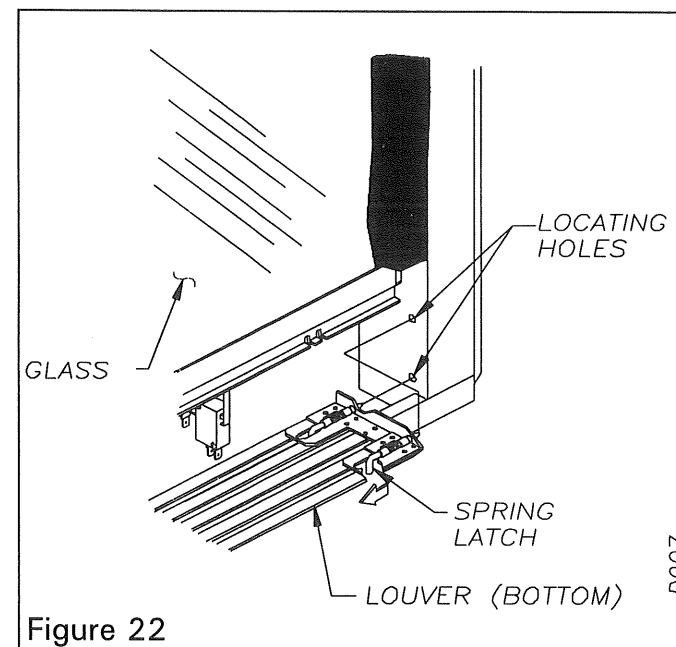

Figure 22
1. Remove **lower louver** from bottom frame as shown in **Figure 22**.
1. To remove louvers, pull both top end spring latches towards the center of appliance simultaneously until they are disengaged from locating holes. Repeat for bottom end spring latches and pull louver outward. Reverse procedure to install louvers back onto the appliance. (Refer to **Figure 22**).